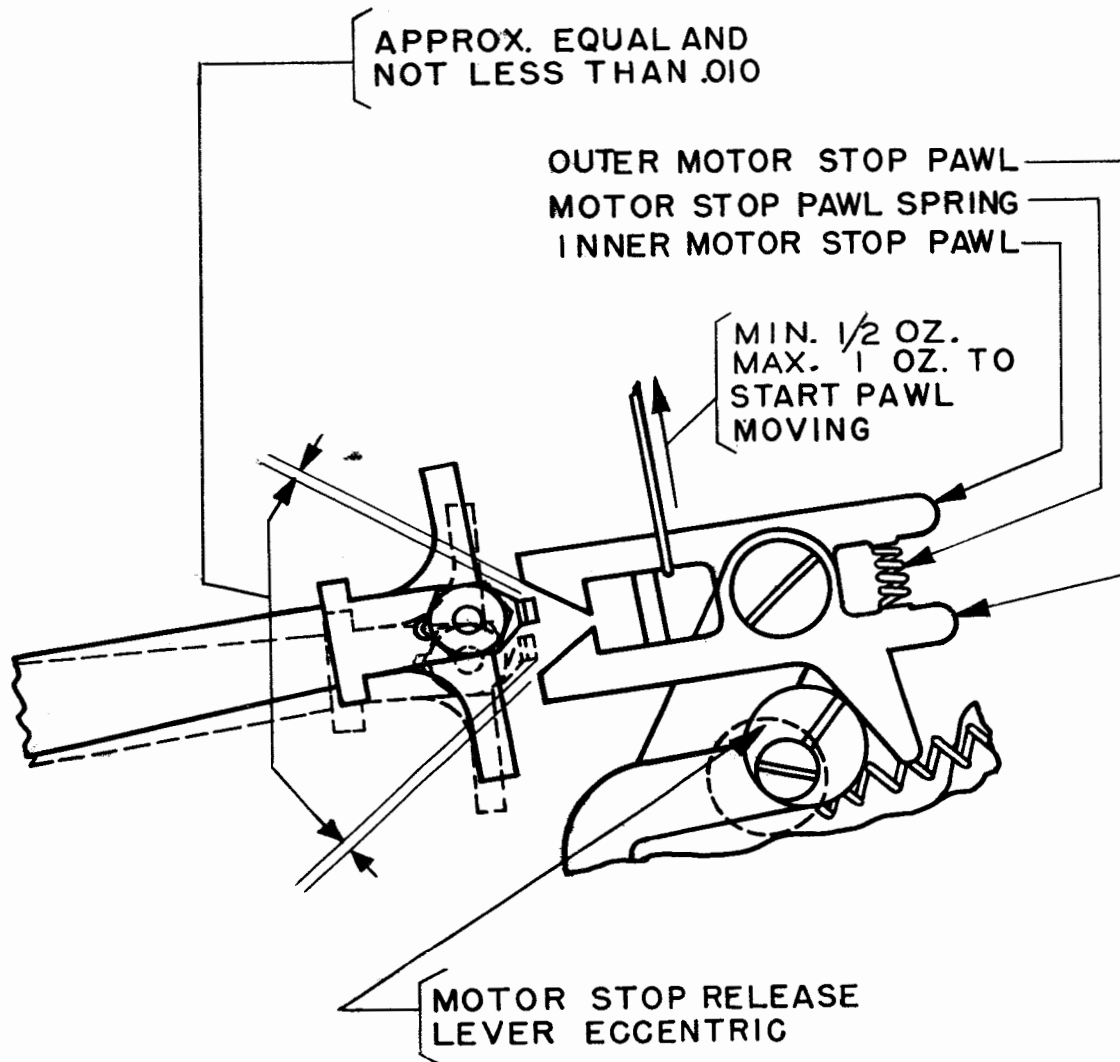

Figure 3
2.04 The Motor-stop Pawls should clear their latches by approximately equal amounts, not less than 0.010 inch, when the armature is moved from its operated to unoperated position with the printing bail in its extreme rear position and the motor-stop release-lever eccentric moved away from the outer-stop pawl. Gauge by eye. (See Figure 3.)
2.06 The Motor-stop-pawl Spring should have a tension of minimum 1/2 ounce, maximum 1 ounce measured when the printing bail is in its extreme rear position. (See Figure 3.)
(a) The fibre insulator on the light contact-spring should clear the motor-stop contact-lever by not more than 0.006 inch when the printing bail is in its extreme rear position, the selector-armature is held operated, and the inner motor-stop pawl is engaged with its latch. (See Figures 3 and 5.)